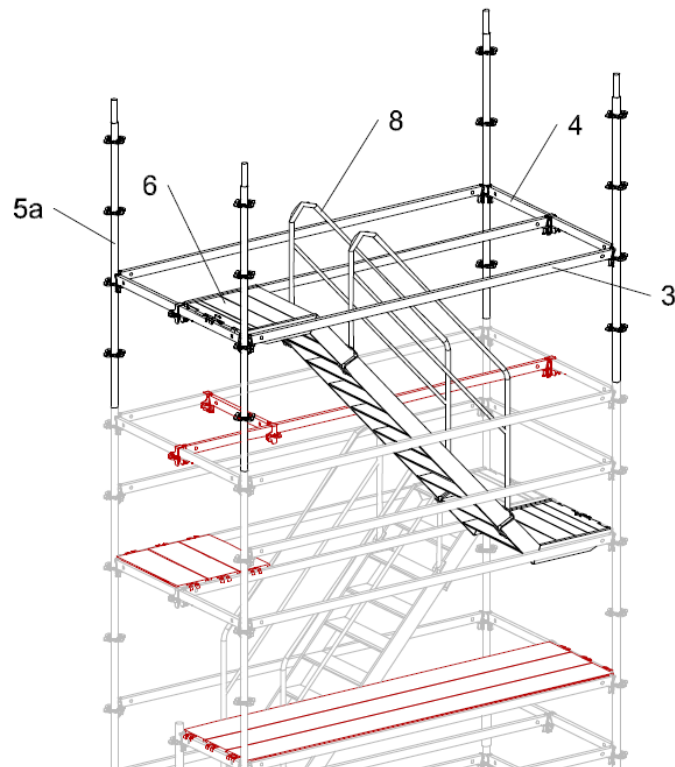

Fig.A7-4
Reposition Steel Decks UDG 300 (9) to position shown (Fig. A7-4)